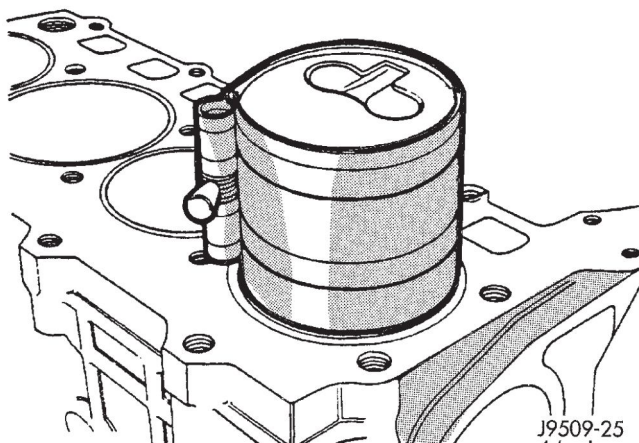

Fig. 81 Installing Piston
rod big end should also face in the same direction. To insert piston into cylinder, use a ring compressor as shown in (Fig. 81).
(3) Immerse the piston head and rings in clean engine oil, slide the ring compressor, over the piston and tighten with the special wrench (Fig. 81). **Ensure position of rings does not change during this operation.**
(4) Face chamber recess side of piston towards camshaft.
(5) Install connecting rod bolt protectors on rod bolts.
(6) Rotate crankshaft so that the connecting rod journal is on the center of the cylinder bore. Insert rod and piston into cylinder bore and guide rod over the crankshaft journal.